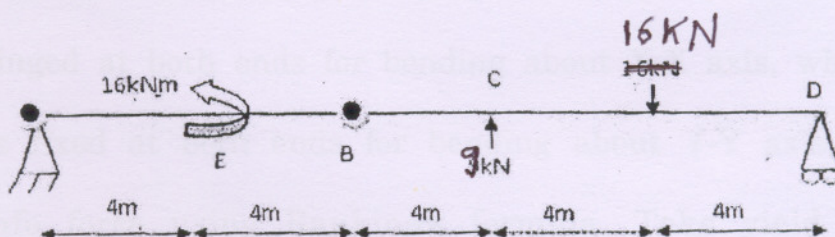

Fig. 3
6. (a) Draw shear force and bending moment diagram for the beam shown in Fig. 3 :